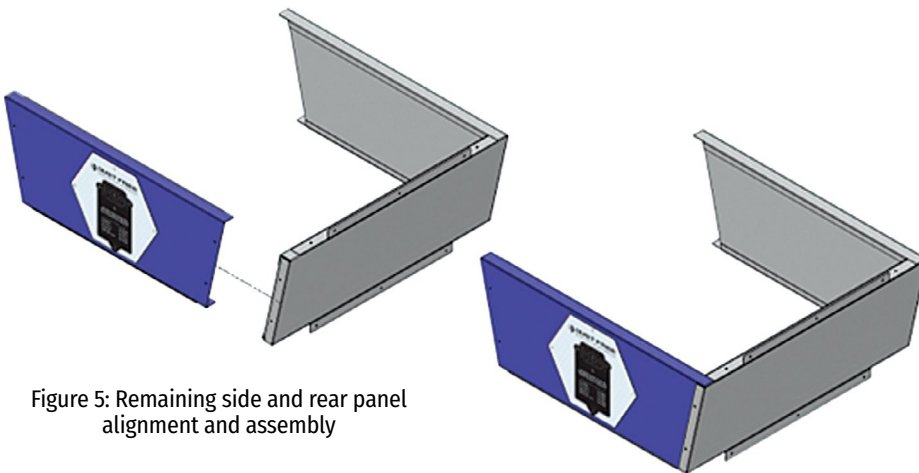

Figure 5: Remaining side and rear panel alignment and assembly
4. Align and insert the remaining side panel into the rear panel, inside the flange as depicted in **Figure 5**.